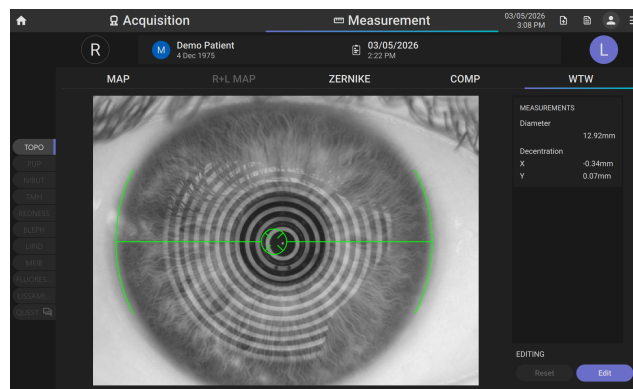

Figure 13.24: White to white measurement interface
- 1 Tap **Edit** button to activate the positional indicators on the image (Figure 13.24)